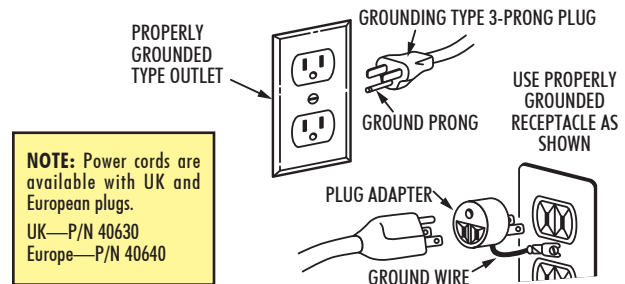

FIGURE 1—Proper grounding for electrical connections.
2. **Ground All Tools**—If a tool is equipped with a three-prong plug, it should be plugged into a three-hole receptacle. If an adapter is used to accommodate a two-prong receptacle, the adapter wire must be attached to a KNOWN GROUND. Never remove the third prong. (See Figure 1.)